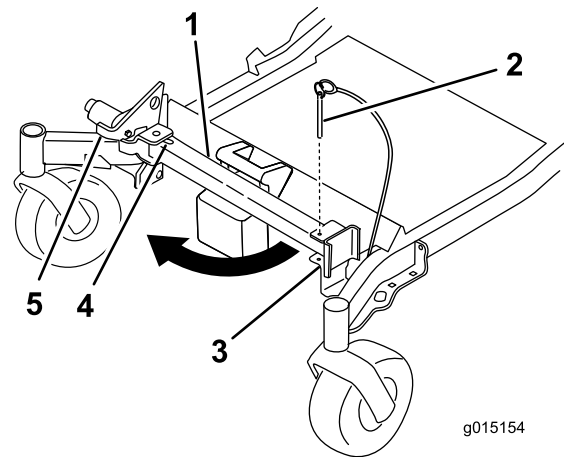
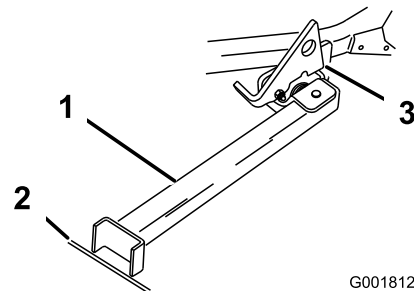

Figure 40
Figure 41
2. Remove the bracket pin (Figure 40).
3. Raise the latch. Swing the stand foot out front and slide stand toward machine, into the bottom of slot (Figure 40 and Figure 41).
4. Set the foot of stand on the ground and rest the latch on the pivot tab (Figure 41).
Note: For best results, place the foot of stand into seams in sidewalks or into the turf (Figure 41).
6. Drive onto the stand. Stop when the latch drops over the tab into the locked position (Figure 41). Once onto the stand, engage the parking brake and turn off the engine.
5. Return the stand to its rest position (Figure 40).